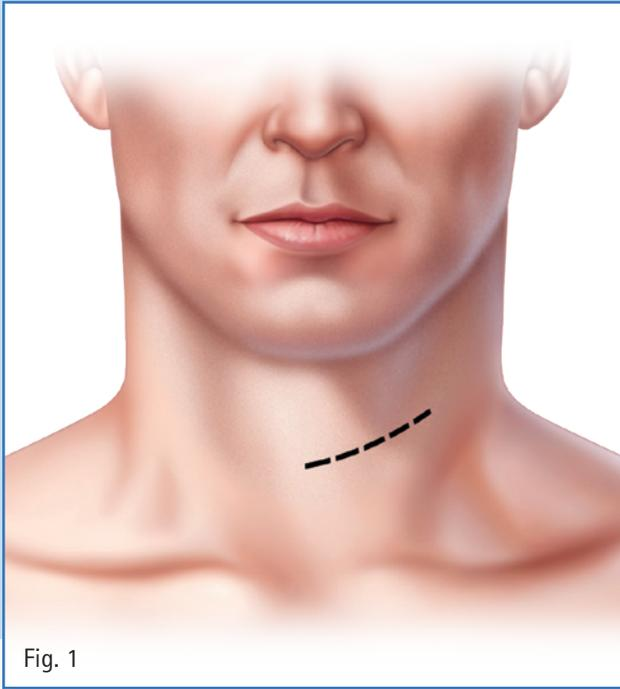

Fig. 1
- Utilize the standard anterior approach to the cervical spine. (Fig. 1)